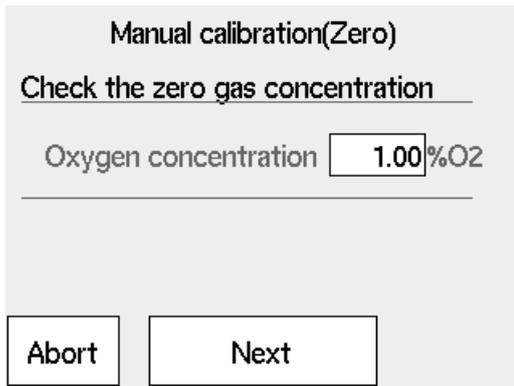

Figure 7.20 Zero gas concentration check
- (6) Select “Zero calibration”. The screen of Figure 7.20 appears. Check that the oxygen concentration value on screen matches the oxygen concentration value of calibration gas that is actually used. Then select “Next”.